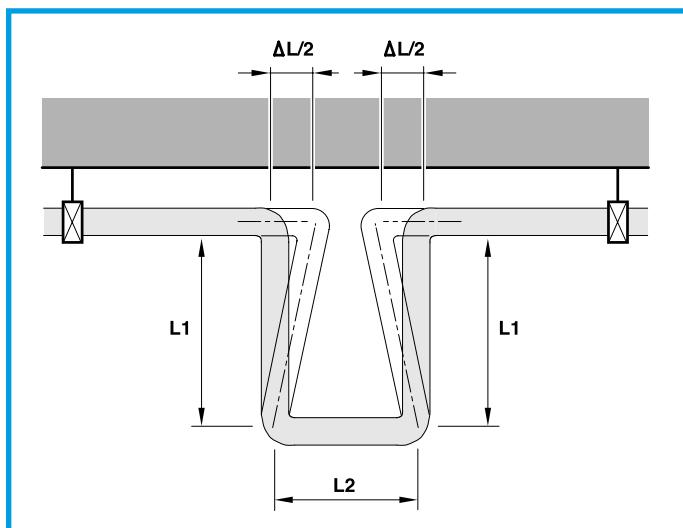

Figure 6 – Free installation
- If sliding collars (or poor quality fixings) are used, a double offset expansion U bend must be used in the middle of the pipeline (Figure 6).